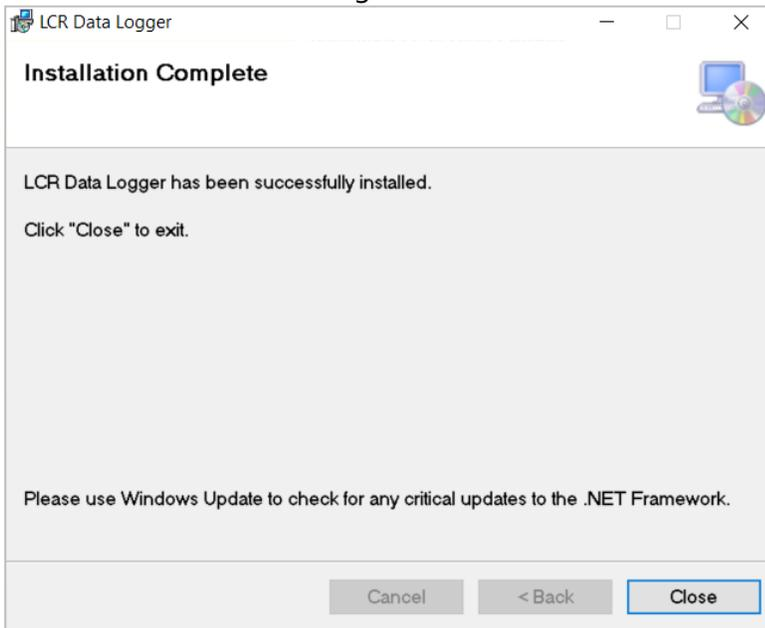

Figure 2-11: Finish LCR Data Logger Software installation
15. Click the **Close** button as Figure 2-11 shows when LCR Data Logger software is installed.